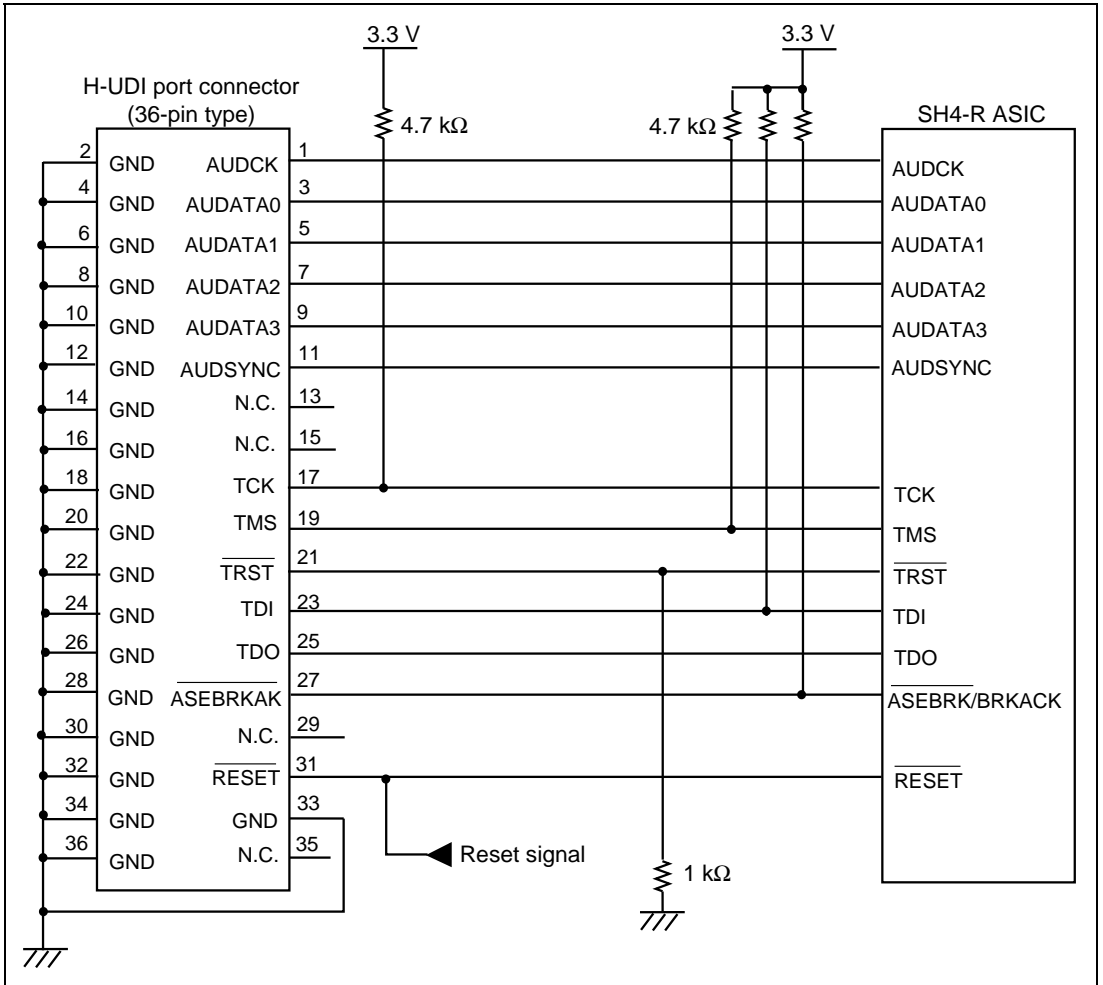

Figure 1.4 Recommended Circuit for Connection between the H-UDI Port Connector and MPU (36-Pin Type)
Figure 1.4 shows a recommended circuit for connection between the H-UDI port connector (36 pins) and the MPU.
5. The resistance values shown in figure 1.4 are recommended.